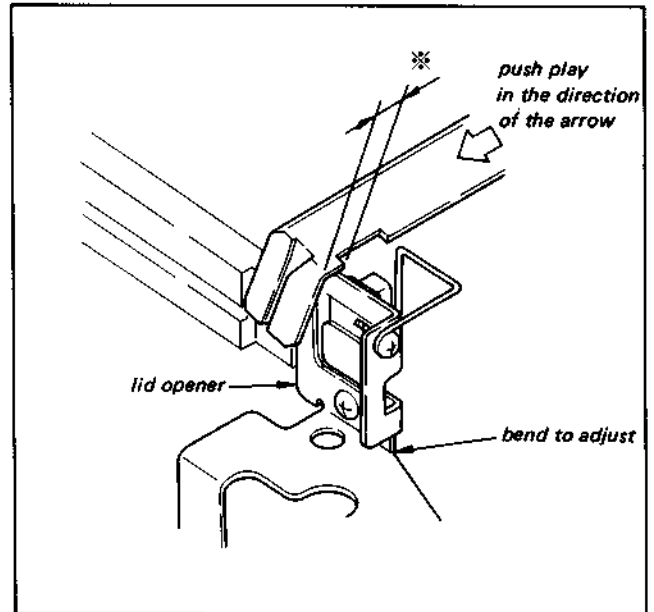

Fig. 3-20. Position adjustment of lid opener
- 2) Bend the lower section of the cassette lid opener bracket so that the cassette lid opener bracket positions itself almost at the center of the space marked by asterisk (\*) in Fig. 3-20, when the cassette is placed on the four position determining posts. The cassette lid should be pushed in the direction of the arrow at this time.